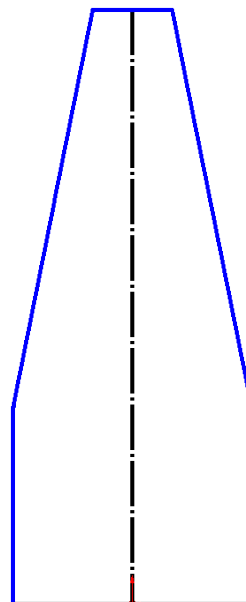

Fig. 4
Step 6. Click **Mirror Entities**  on the Sketch toolbar, **Fig. 4**.
Step 7. Click **Smart Dimension** (S) on the Sketch toolbar.